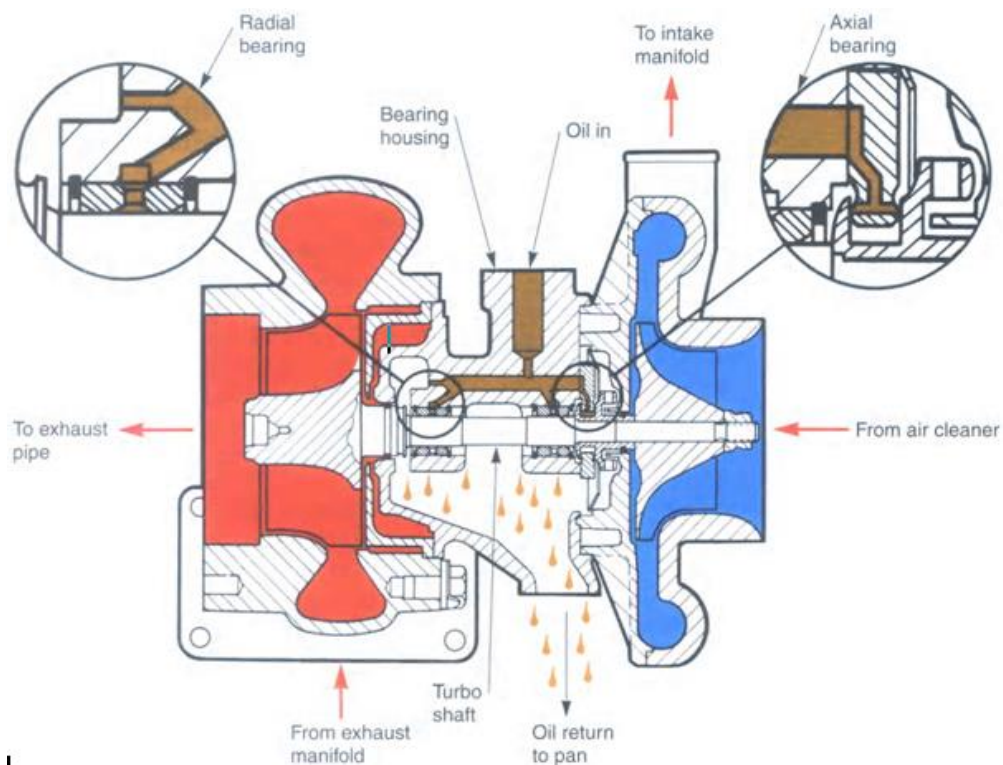

Fig. 6
The turbocharger lubricating oil is supplied under pressure through an external oil line extending from the engine cylinder block to the top of the centre housing (see Fig. 6 on next page).
- With the engine running, oil enters the turbo under pressure from the engine main oil supply channel Figure 6.
- Sealing rings (piston-type rings) are placed around the turbo shaft at each end of the turbo housing. They prevent oil leakage into the compressor and turbine housings, Figure 6.